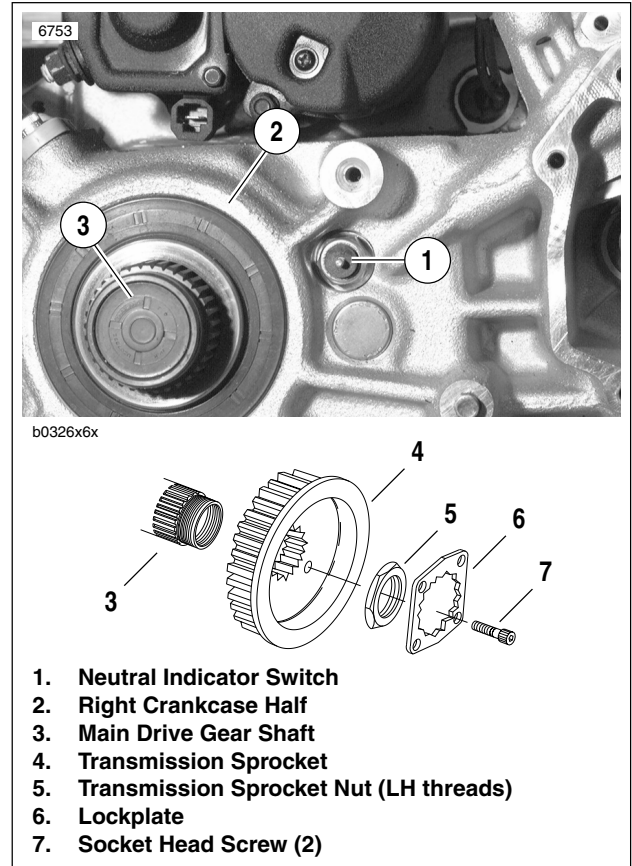

Figure 7-75. Neutral Indicator Switch
See Figure 7-75. The neutral indicator switch (1) is threaded into the transmission portion of the right crankcase half (2); it is immediately forward of the main drive gear shaft (3). The sprocket cover must be removed to test the switch. If switch requires replacement, secondary drive belt and transmission sprocket must also be removed; there is not enough clearance to allow the removal of the switch without first removing the transmission sprocket.
2. See Figure 7-75. Disconnect wire lead from neutral indicator switch (1).
3. See Figure 7-75. Place transmission in first gear. Remove two socket head screws (7) and lockplate (6).